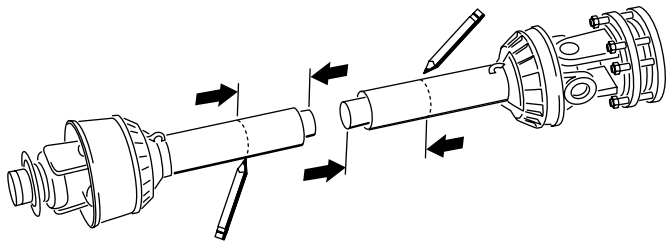
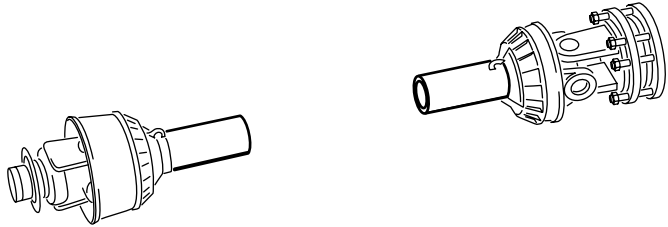

Figure 18
Figure 19
13. Using the dimensions determined in step 8, locate, mark and cut off the shield and tube from each PTO half (Figure 18 and Figure 19).